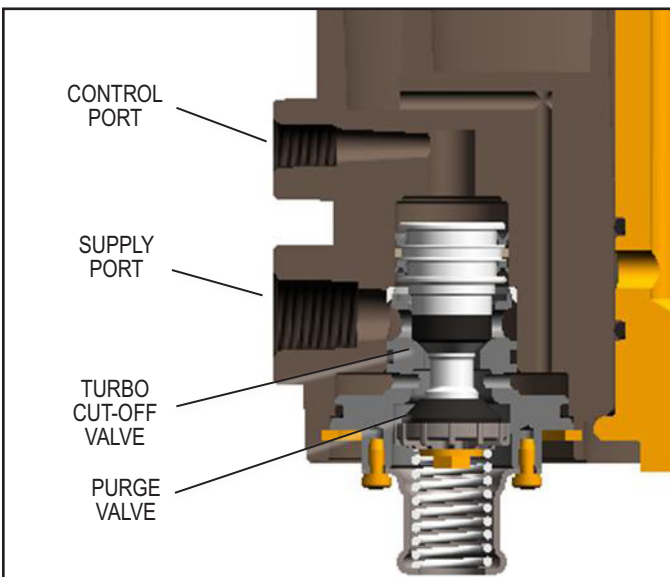

FIGURE 5 - AD-IP® INTEGRAL PURGE AIR DRYER TURBO CUT-OFF
**TURBO CUT-OFF FEATURE** (Refer to Figure 5)